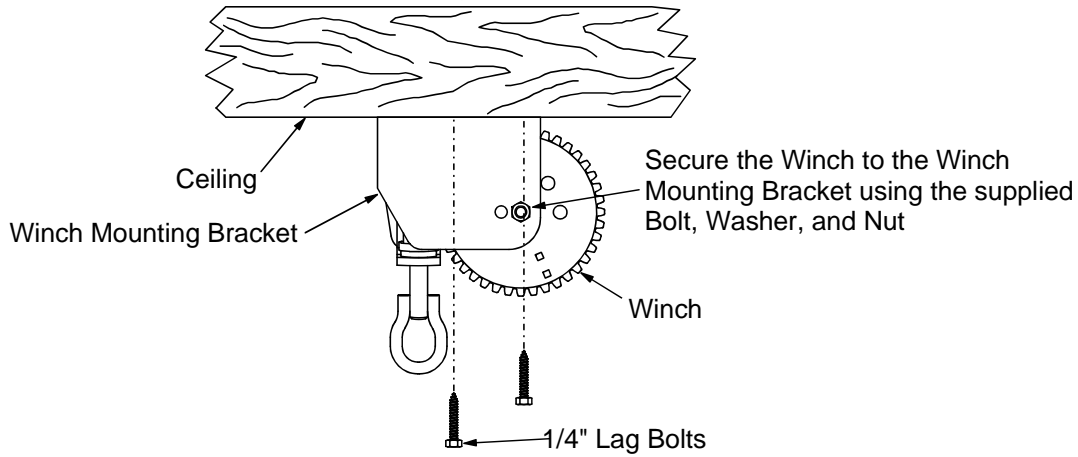

Figure 6. Winch Mounting
4. Mount the Split Drum Winch as shown in **Figure 6**. Mount the winch to the ceiling or on a 2 x 8" [50x200 mm] board spanning at least two rafters for support. Use at least (4) 1/4" lag screws (not supplied) to secure winch to support.
- Bolt the winch to the bracket, as shown in **Figure 6**.